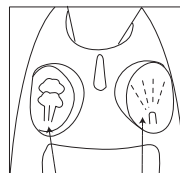

Figure 3:
- Make sure that there is water in the tank and the temperature control dial (10) is set to the required steam position.
- Lift the appliance and press the Burst of Steam Button (12) (Fig 3). You may need to press a few times to activate the pump.